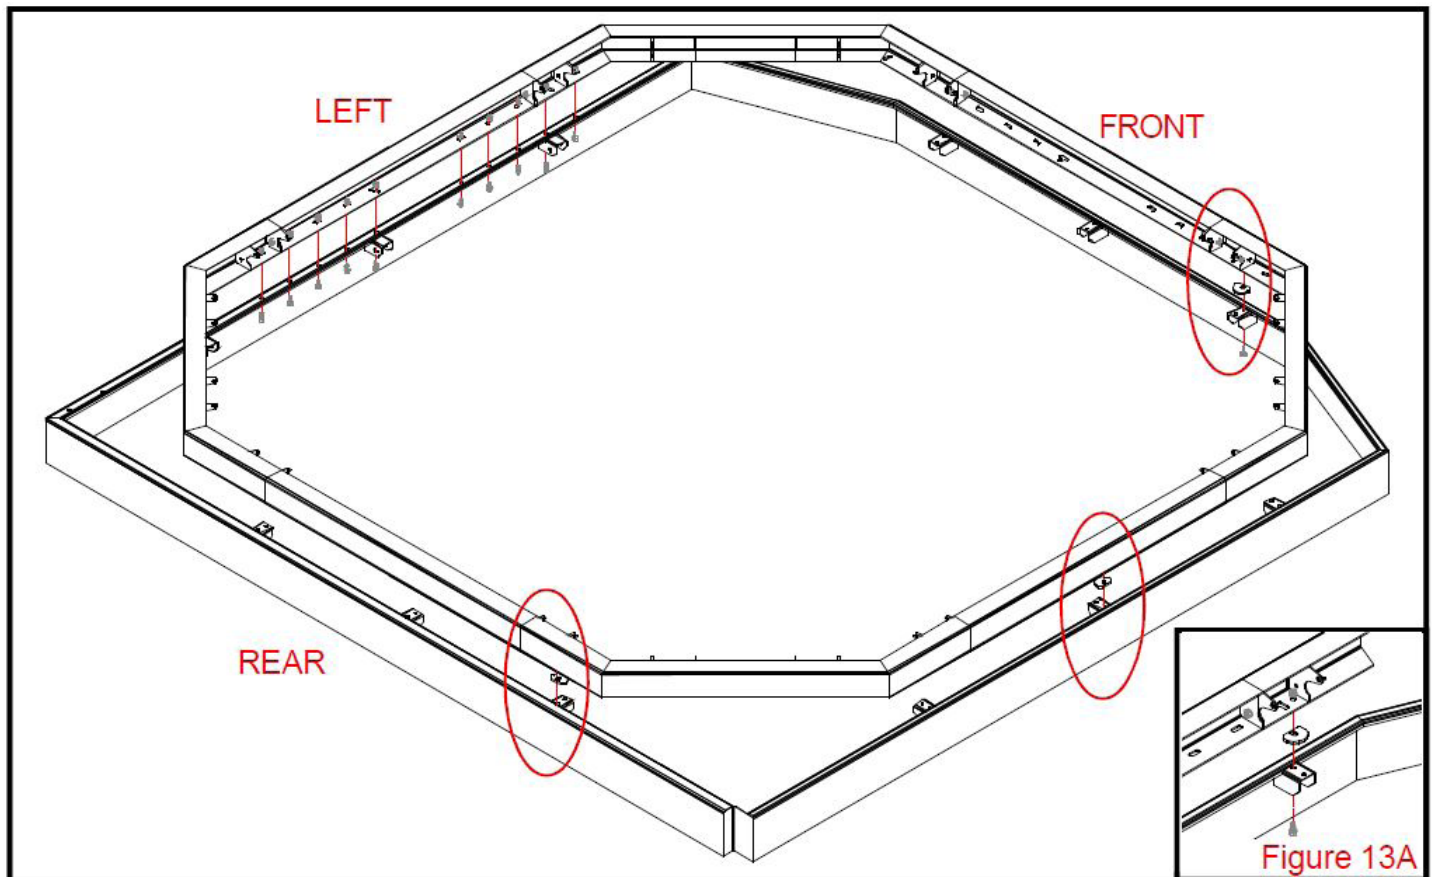

Figure 13
Align the slots on the bottom left side of the extension frame with the (10) holes along the left side of the tank. See Figure 13 on next page. Using 5/16" x 1" serrated flange bolts and 5/16" serrated flange nuts, fasten the frame to the tank.
Align the slots on the bottom left side of the extension frame with the (10) holes along the left side of the combine tank. See figure 13. Using 5/16" x 1" serrated flange bolts and 5/16" serrated flange nuts, fasten the frame to the tank.
Use the top holes of the existing front tank bracket as a guide and drill a 3/8" hole up through the bottom of the extension frame. Slide the provided frame spacers between the frame and the existing tank bracket. Bolt through the frame, spacer, and tank bracket with 5/16" x 1" serrated flange bolt and 5/16" serrated flange nut. See figure 13a. We recommend that the tasks explained in this step be preformed where areas are circled in Figure 13.